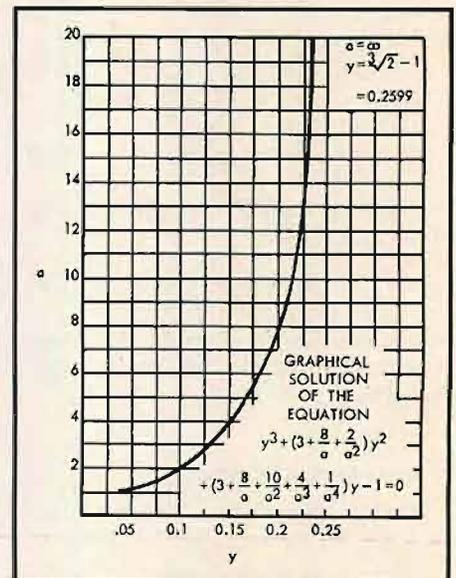

Fig. 4. Graph of  $y$  as a function of  $a$ .
For each value of the multiplier  $a$  (which is a pure numeric) there is one positive root  $y$  which always satisfies  $0 < y < 0.26$ . Equation (34) may be solved graphically or by the use of the method of Horner, or Newton. Possibly the simplest procedure is to guess the value of  $y$  for a specified value of  $a$ , and verify the accuracy of the guess by substituting the values back in Eq. (34). A desk calculating machine is useful in carrying out this work. To insure an "intelligent guess," the writer has prepared a plot of  $y$  as a function of  $a$ . This graph is shown in Fig. 4.
- (1). Choose the value of  $a$ . A reasonable range is  $1 \leq a \leq 10$ .
- (2). Accurately determine  $y$  for the selected value of  $a$ , using Eq. (34), beginning with the  $y$  vs.  $a$  plot given in Fig. 4.
- (3). Arbitrarily select the values of  $R_1$  and  $R_4$ , keeping in mind "rule" (c), set forth at the beginning of this paper.